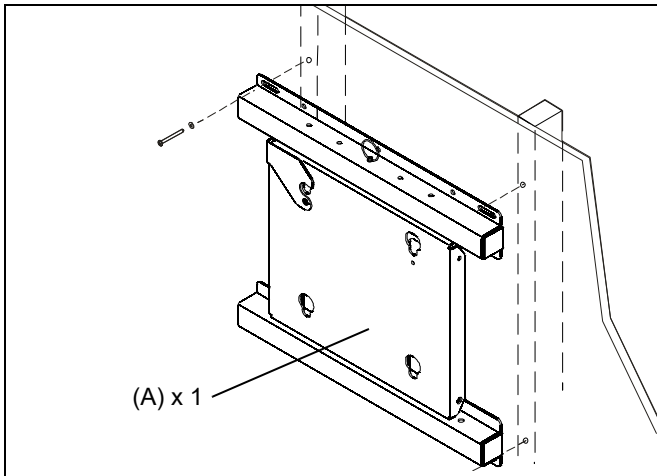

Figure 4
5. Place mount assembly (A) against wall and align mounting holes in mount assembly with pilot holes (See Figure 4).
6. Secure mount (A) to wall studs using four 1/4" x 2" lag screws, and four flat washers.